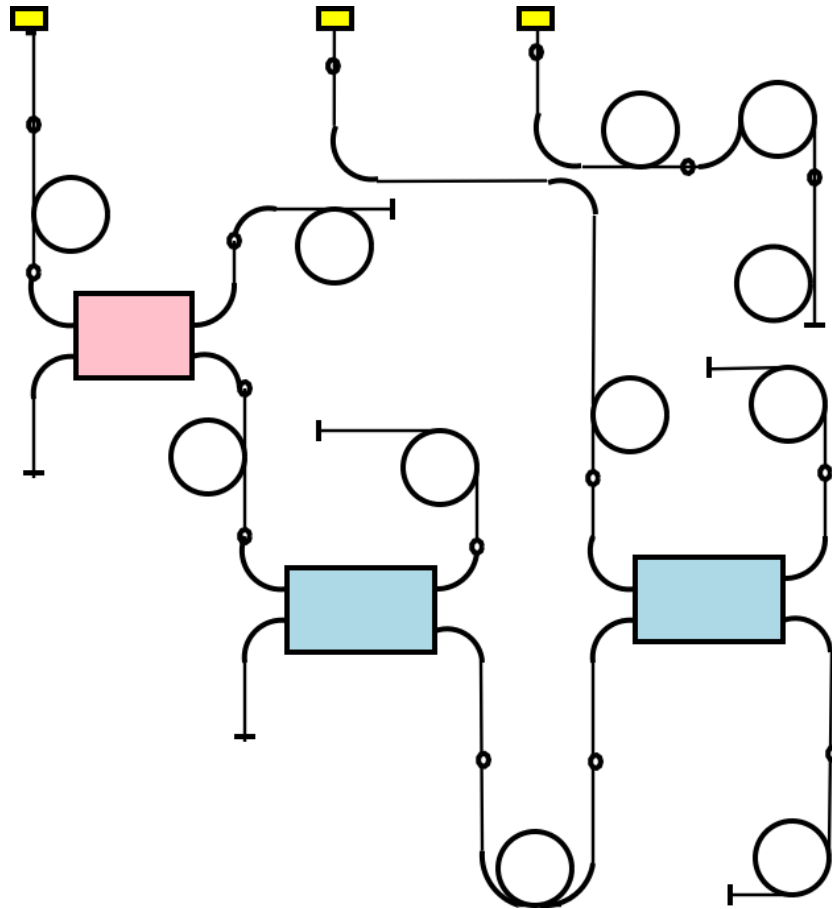

Figure 12.2: Schematic Diagram of Network (no text)
**Q1:** Sketch in approximate lengths for the loops in Figure 12.2 and indicate coupling information for the couplers, as much as you are able.
**T1:** Write the distances from the fibre end to each feature in Figure 12.2, and in some other way (i.e. different colour, highlighted, etc.) show the change in dBm for the feature.